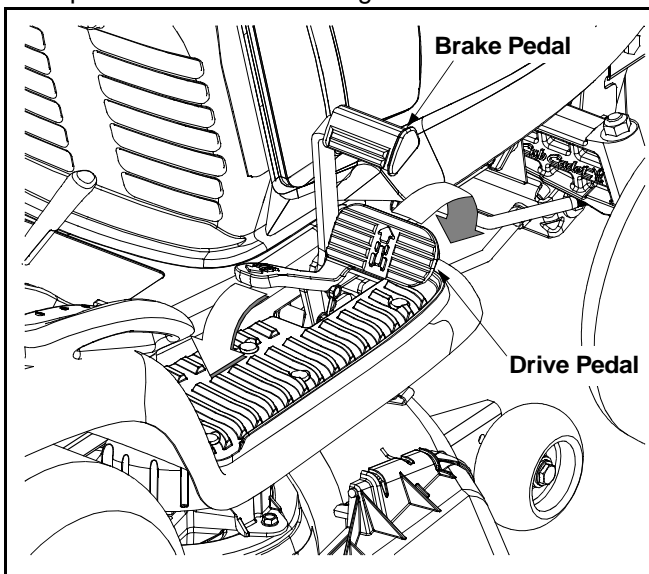

Figure 8
- To travel FORWARD, slowly depress the upper portion of the drive pedal forward until the desired speed is achieved. See Figure 8.
- To travel in REVERSE, check that the area behind is clear then slowly depress the lower portion of the drive pedal with the ball of your foot (NOT your heel) until the desired speed is achieved. See Figure 8.